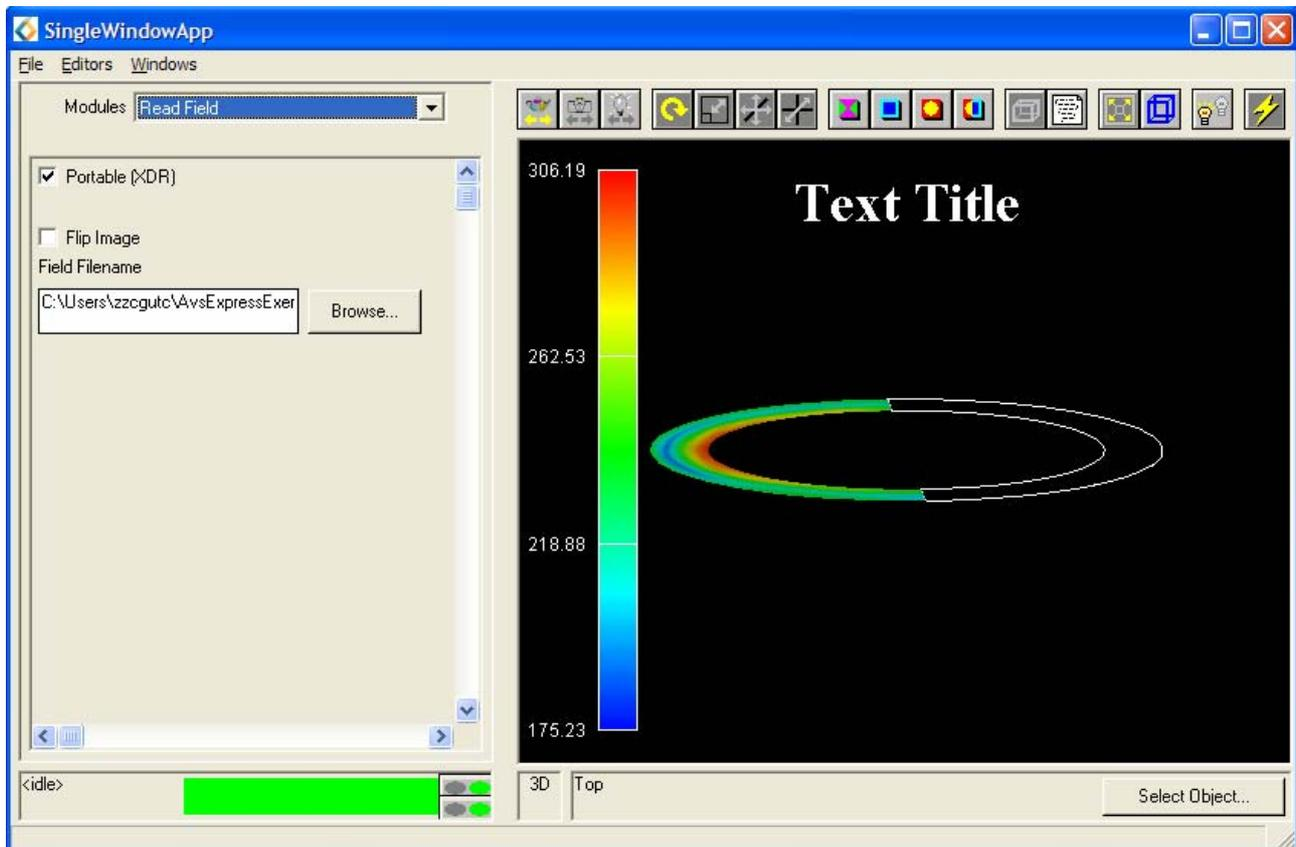

Figure 4.9: Initial Image in Data Viewer Pad
- An image similar to the one shown in Figure 4.9 should appear in the Data Viewer Pad.